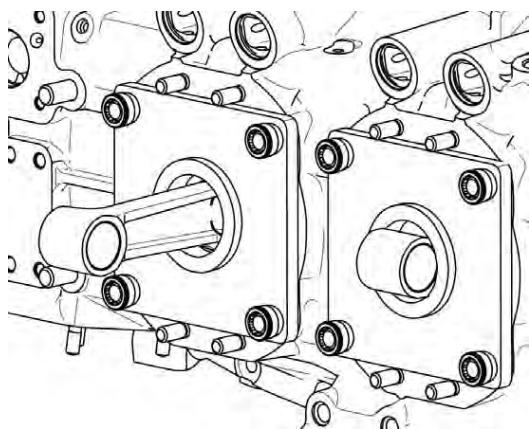

Figure 9
- (1) Install torque hold-down plates (ST-222) as shown in Figure 9.